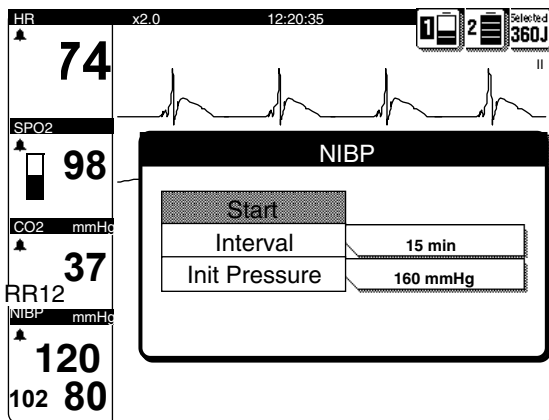

Figure 3-12 NIBP Overlay
- 4 To select an interval, highlight and select NIBP on the Home Screen. Refer to Figure 3-12.